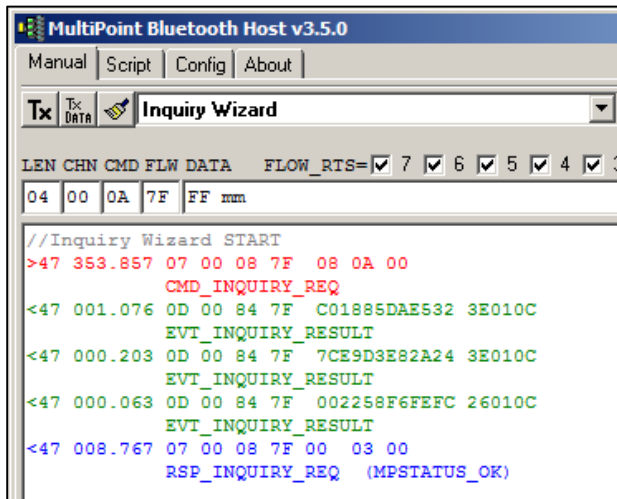

Figure 48: Click Inquire
- Click **Inquire** (Figure 48).